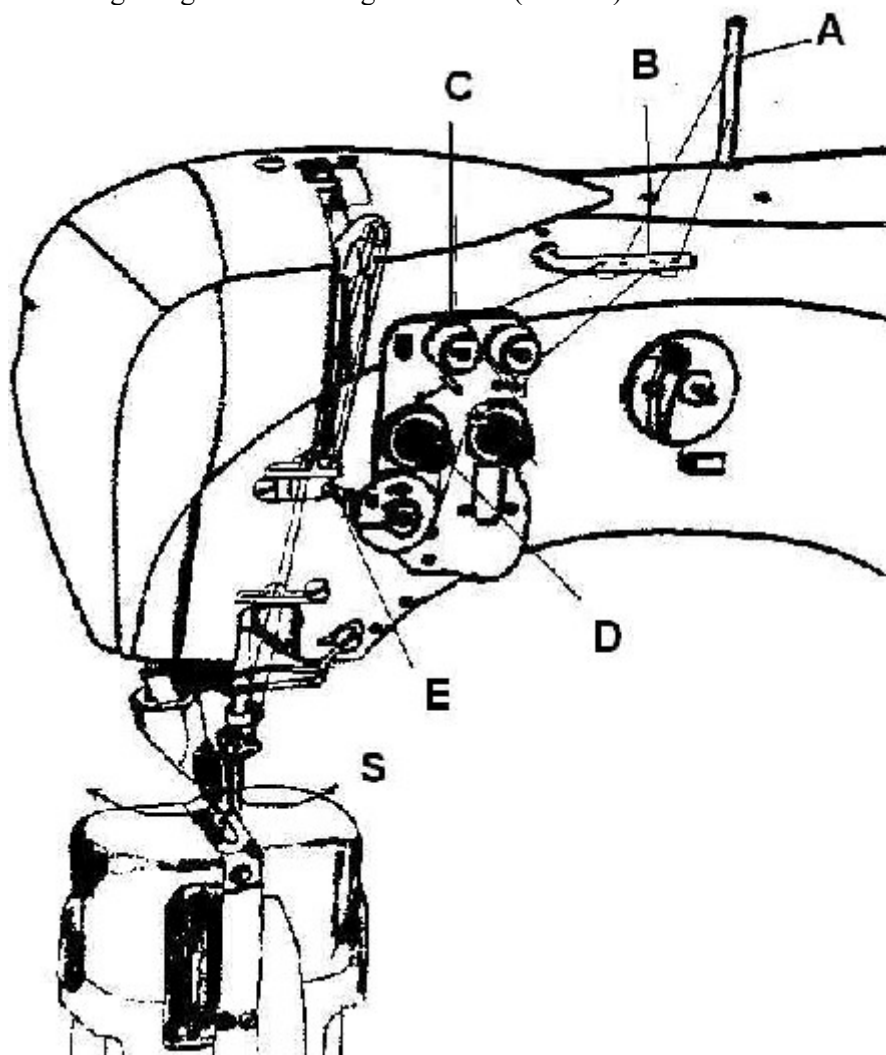

Fig.2
When threading the thread from bobbin stand into needle follow figure 1 for single needle machine, or figure 2 for two-needle machine. The threads pass from bobbin stand to thread guides on the machine head (A, B) through auxiliary tensioner and thread guide (C), through tensioner (D), tension spring (E) and thread take-up lever to the needle. The thread enters the eye from the side with a long groove. On two-needle machines threading should be carried out according to figure 2 following the arrows (P and S).